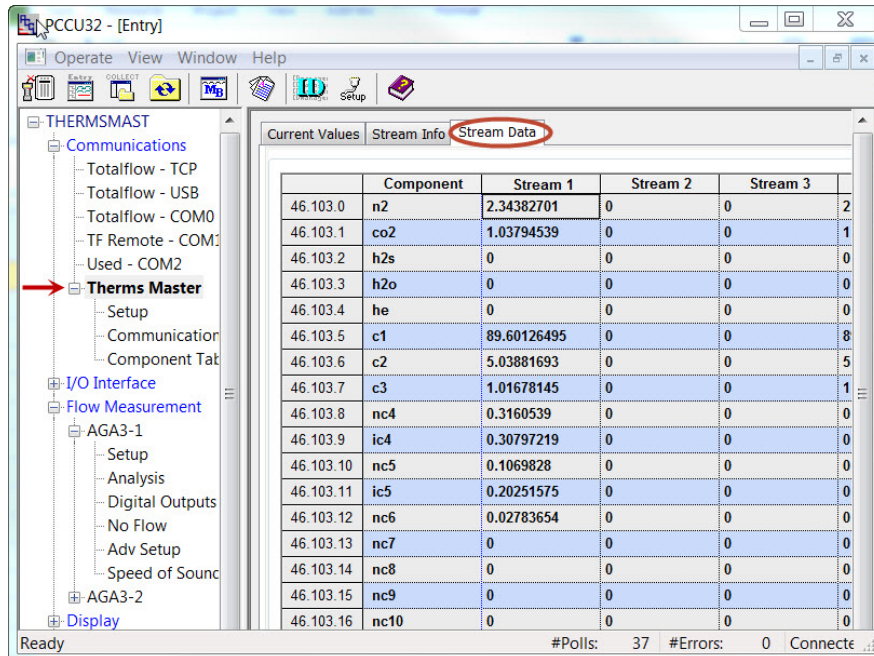

Figure 49. Verify Therms Master receives data from the stream data tab
- 9) Go to the *Stream Data* tab and verify that data is being received for enabled streams. See Figure 49 for a view that displays all streams at once for verification.